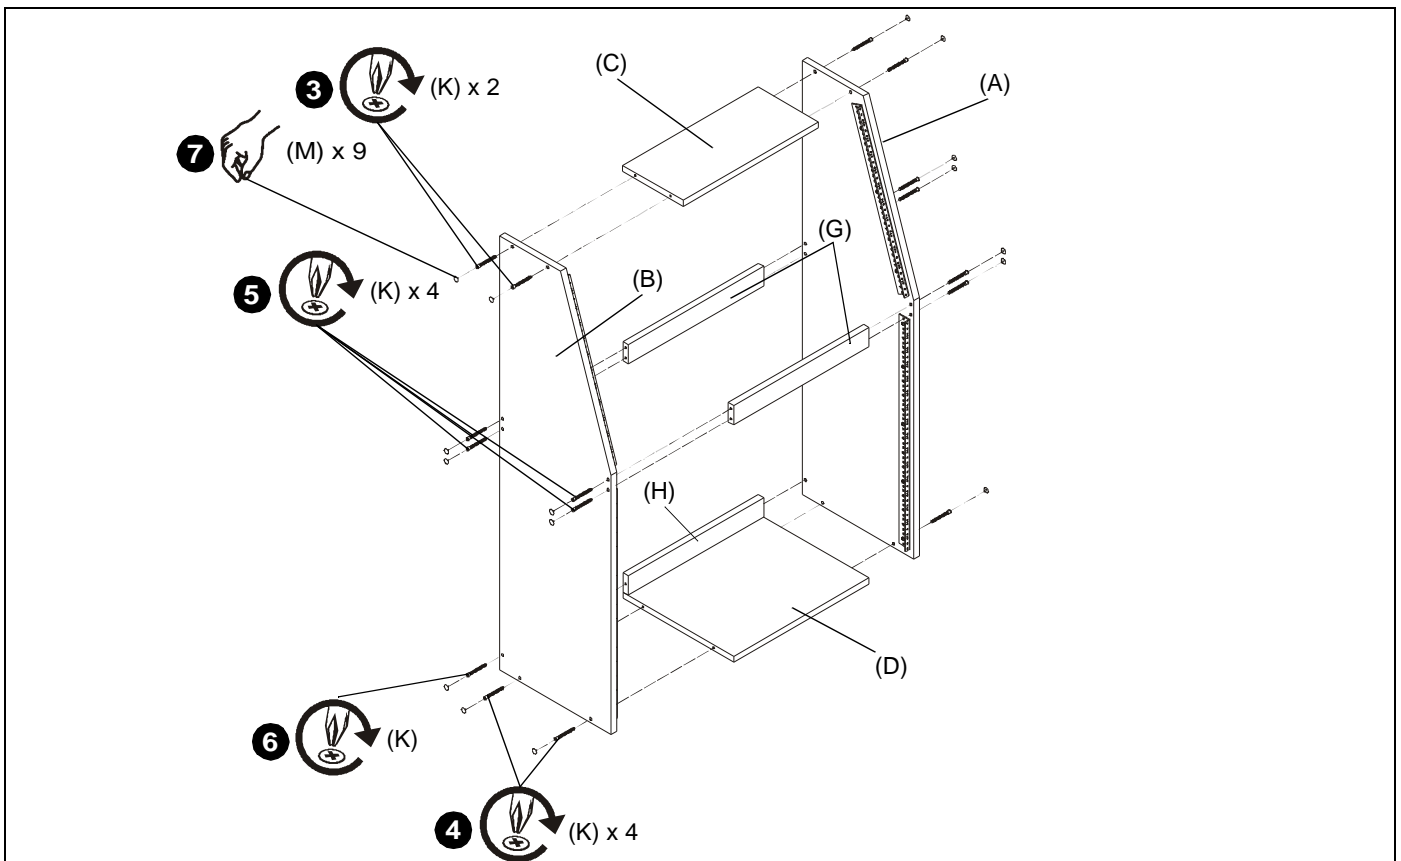

Figure 2
3. Secure rack top (C) to one side panel using two M7x50mm Phillips confirmat screws (K). Do not over tighten! (See Figure 2)
4. Secure the rack bottom (D) using two M7x50mm Phillips confirmat screws (K). Do not over tighten! (See Figure 2)
5. Secure two upper cross braces (G) to the front and back of the side panel using four M7x50 Phillips confirmat screws (K). (See Figure 2)
6. Secure rear cross brace (H) to the bottom of the side panel using one M7x50 Phillips confirmat screws (K). (See Figure 2)
7. Install nine caps (M) to installed confirmat screws (K). (See Figure 2)
8. Install remaining side panel (A) to the other side following Steps 3-7.